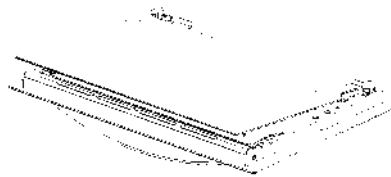

Figure 4
3. To sideling extract the inside glass, as shown in figure 4.
4. To sideling extract the inside glass, as shown in figure 4.
2. To sideling extract the inside glass, as shown in figure 4.